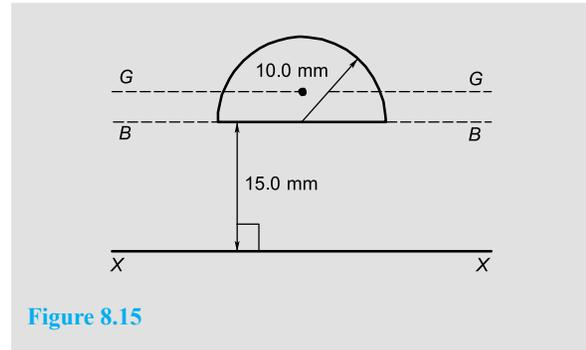

Figure 8.15
**Problem 11.** Determine the second moment of area and radius of gyration for the semicircle shown in Figure 8.15 about axis  $XX$ .